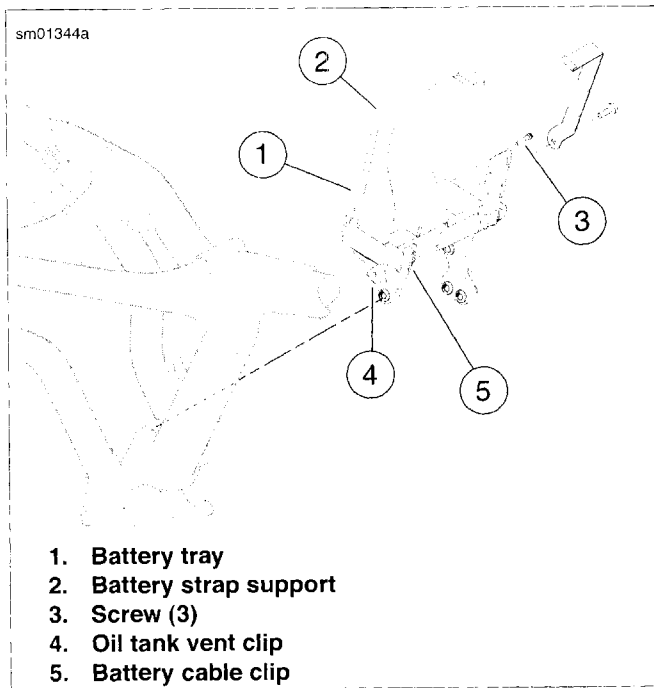

Figure 6-27. Battery Tray
5. See Figure 6-27. Remove three fasteners (3) securing battery tray to mounting tabs on frame.
6. See Figure 6-27. Lift up battery tray slightly so that mounting tabs will clear mounts on frame. As you lift up on tray, pull down gently on end of battery strap support (2) to clear frame and wiring harnesses above battery tray.
2. See Figure 6-27. Slide battery tray (1) into place. Make sure battery tray mounting tabs are positioned behind (to the right of) frame mounts.
4. Install three screws (3) to secure battery tray to frame. Do not tighten screws until all three have been started. Then tighten screws to 96-156 **in-lbs** (10.9-17.6 Nm).